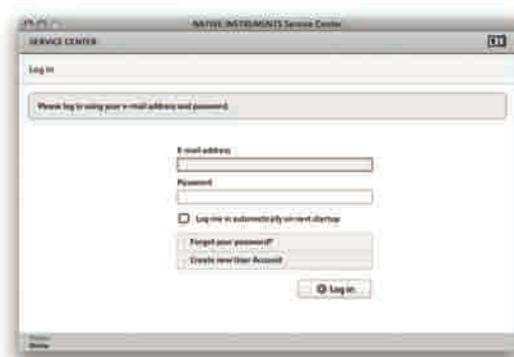

Figure 4.43
2. Please log in using your e-mail address and password. Click **Log in**. (Figure 4.43)